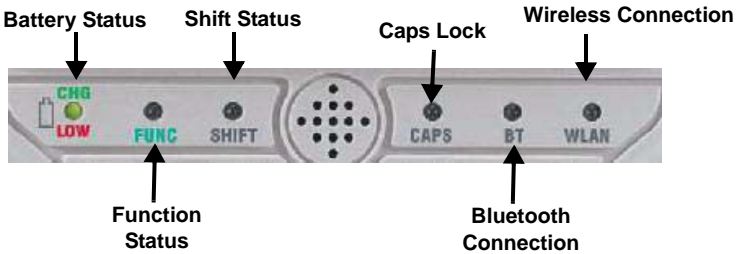

Figure 1-2. SHC2500 Modifier Keys
| 3    | Front Panel | Contains status and modifier key indicators (see Figure 1-2 on page 1-4) |
**Configuration Options** The SHC2500 comes standard with one RS-232 DE-9 serial port, one RS-1 radio port, and one USB mini A/B connector. The SHC2500 also includes USB (1.1), Wireless LAN (802.11/gb) and Bluetooth (1.2/Class II) (see Figure 1-2 on page 1-4 for connector specifications).
The front panel components consist of the battery indicator light (battery status), function light, shift key light, speaker, CAPS indicator light, bluetooth connection status, and wireless connection status (Figure 1-2).
The SHC2500 has five LED indicators that provide a number of useful functions, including the state of the art keypad modifier keys. An additional LED indicates the charge and low battery status of the unit (Figure 1-2).